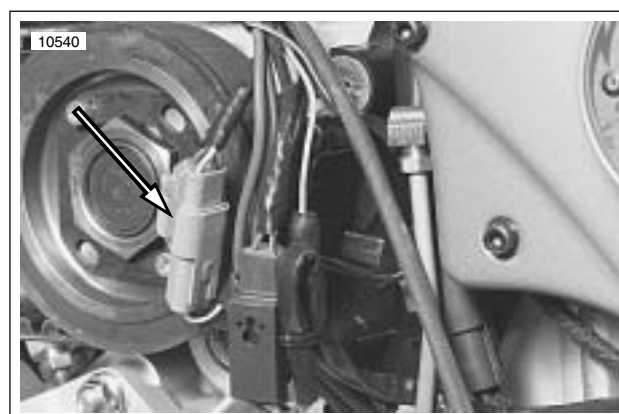

Figure 7-64. Vehicle Speed Sensor Connector [65]
1. See Figure 7-64. Locate the 3-place vehicle speed sensor connector [65] under the sprocket cover. See 2.30 SPROCKET COVER.
1. See Figure 7-64. Disconnect vehicle speed sensor connector [65]. Attach speedometer tester connector to vehicle speed sensor connector.